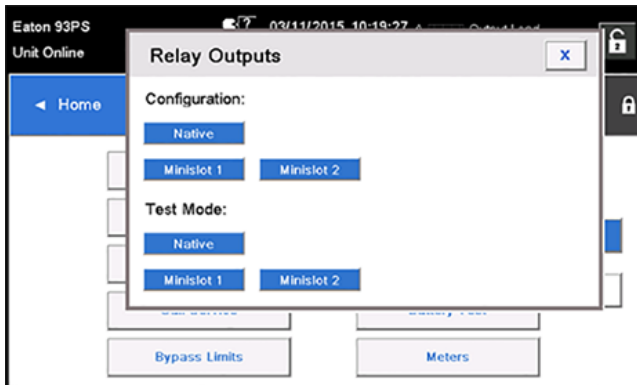

Figure 25. Options for relay outputs configuration
10. You can test the relays by selecting any of the options in the test mode (see Figure 25).